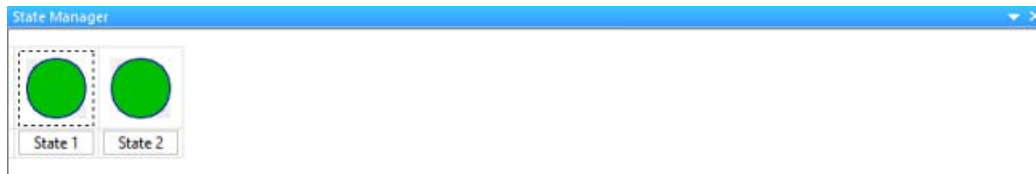

FIG. 309 State Manager window showing a button with two states
1. Create a new multi-state button. Note that even multi-state buttons initially have only two states, as indicated by the State Manager window (FIG. 309):